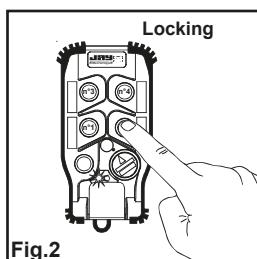

Fig.2
- 5- Select "locked" or "unlocked" by pressing button n°2; the selected mode is shown by the indicator lights (fig.2&3).